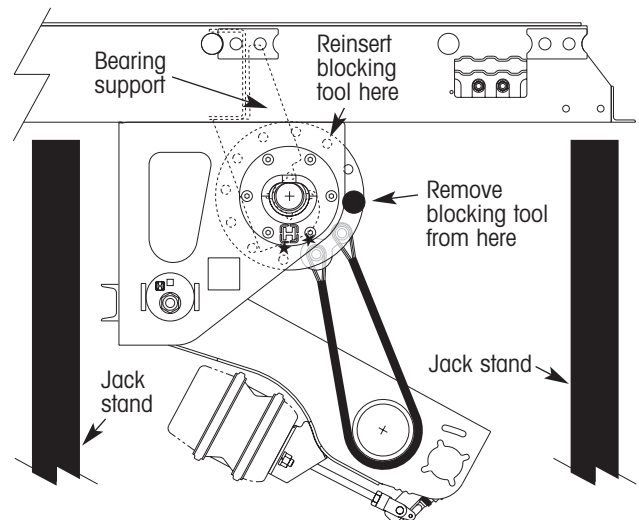

Figure 22. Turn trailer mode valve to "T" position, remove and reinsert blocking tool
1. Turn the trailer mode valve (figure 3) to the "T" position (transfer mode). This causes the trailer to rise (figure 22).
3. Reinsert the two-piece blocking tool into the flange plates. Choose the pair of flange plate holes that are closest to the bearing support (figure 22). Center the blocking tool between the flange plates as shown in figure 2.